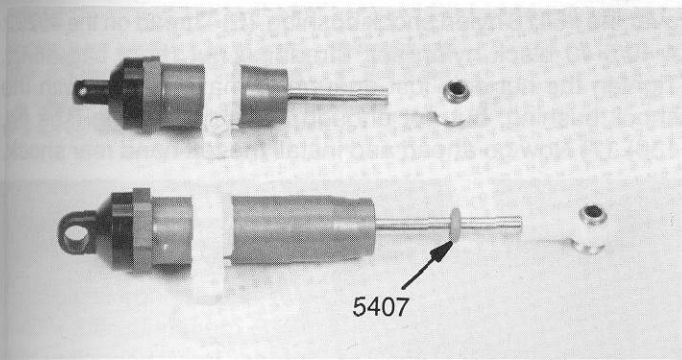
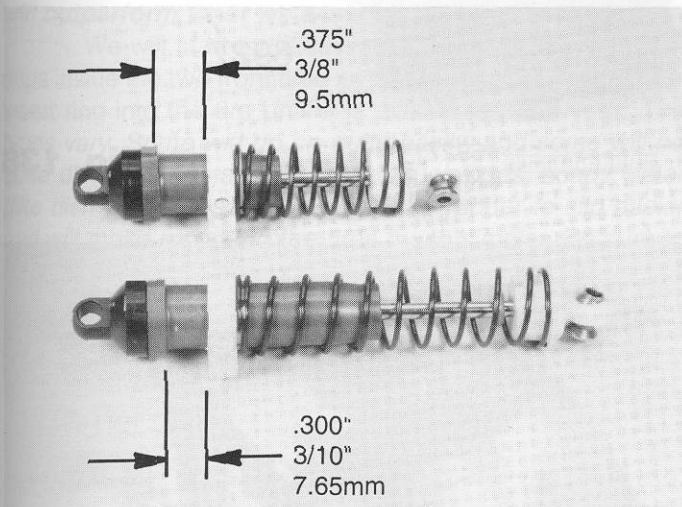

Fig. 128
Fig. 129
□ **Figs. 128 & 129** (1) From bag #6-11 remove the two long #6480 2.75" rear green springs. (2) Install one spring onto each of the long rear shocks. (3) Leaving the shaft extended, slide the red O-ring to the top of the shaft (4) and then slide on the spring and seat it against the spring clamp clamp. (5) Compress the spring and slide one of the #6474 spring cups onto the shaft and over the #6471 shock rod end. Make sure the red O-rings are between the spring cup and the shock body.
(6) For the rear shocks, adjust your spring clamps so that there is a .300" (3/10" or 7.65mm) gap between the hex portion of the shock body and the top of the shock clamp (see fig. 129). (7) Tighten the clamp enough so it cannot be moved, but not so tight as to strip out the threads.
(8) Remove the two remaining #8232 1.4" front black springs from bag #6-11. Repeat the steps used in fig. 128, but using the #8232 springs, and adjust your spring clamps with a spacing of 3/8" (.375" or 9.5mm) as shown in fig. 129.